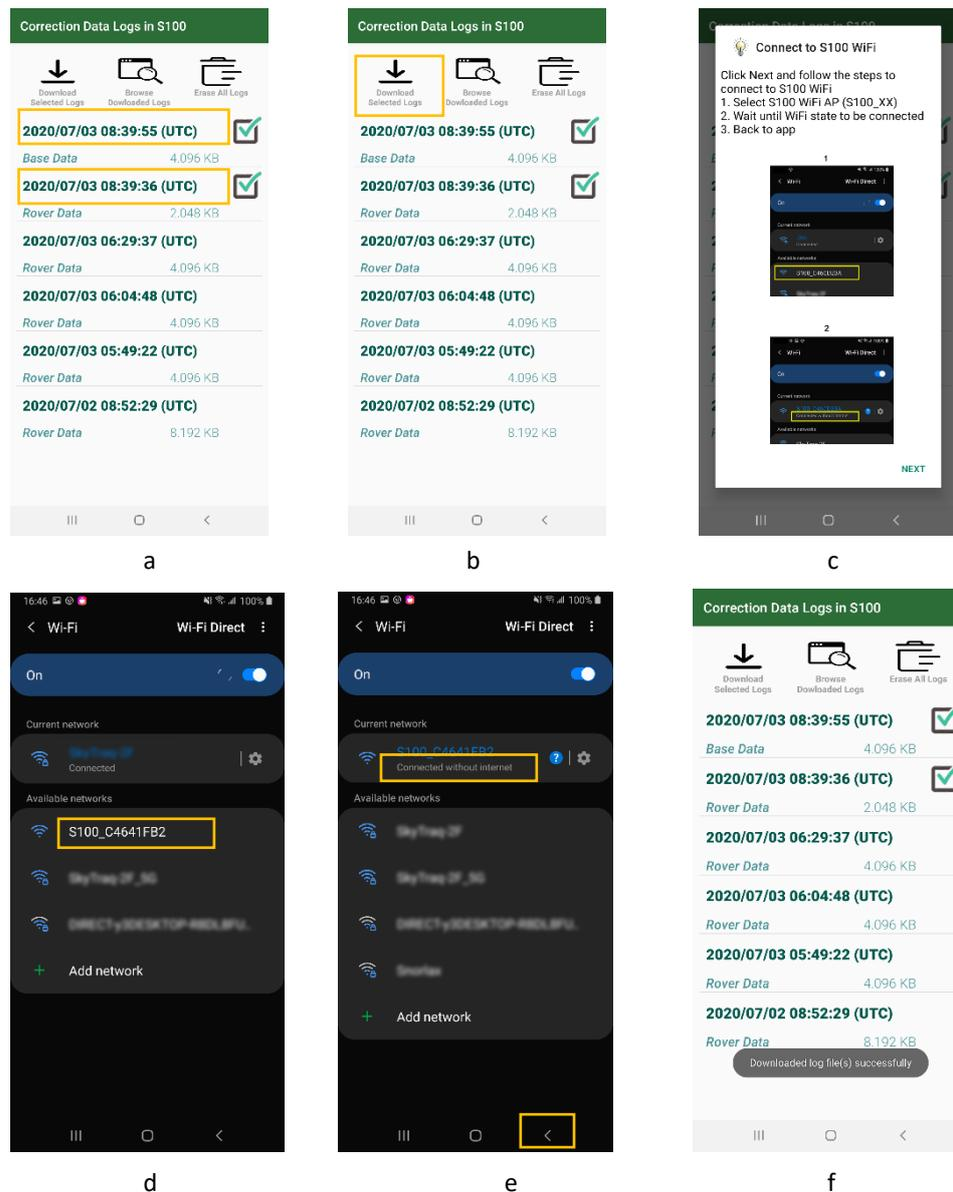

Figure 7-6
1. Select the log data to download by clicking its date field. The selected files are then marked. See Figure 7-6 a.
2. Click “Download Selected Logs”. See Figure 7-6 b.
3. A pop-up window shows how to connect to S100 via WiFi connection. Read the instructions and click Next. See Figure 7-6 c.
4. You’ll be brought to system’s WiFi configuration screen. Select the WiFi AP whose name starts with “S100” and make sure the phone is connected with it (no Internet capability during log file transfer). See Figure 7-6 d.
5. Click Back button. See Figure 7-6 e.
6. The file transfer starts, and you will be prompted when it finishes. See Figure 7-6 f.